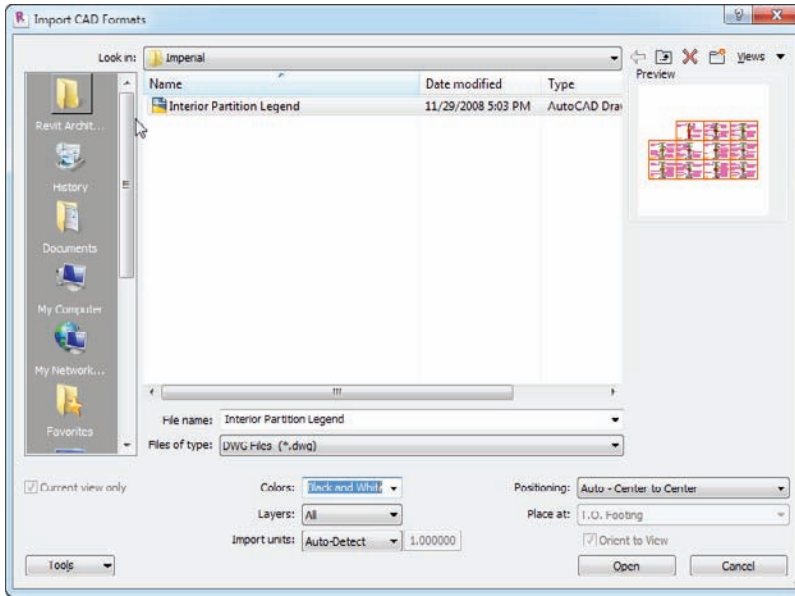

FIGURE 11.55 The Import CAD Formats dialog. Be deliberate when importing a CAD file, by choosing the options at the bottom of the dialog.
6. At the bottom of the Import CAD Formats dialog, notice that you have a few choices (see Figure 11.55):